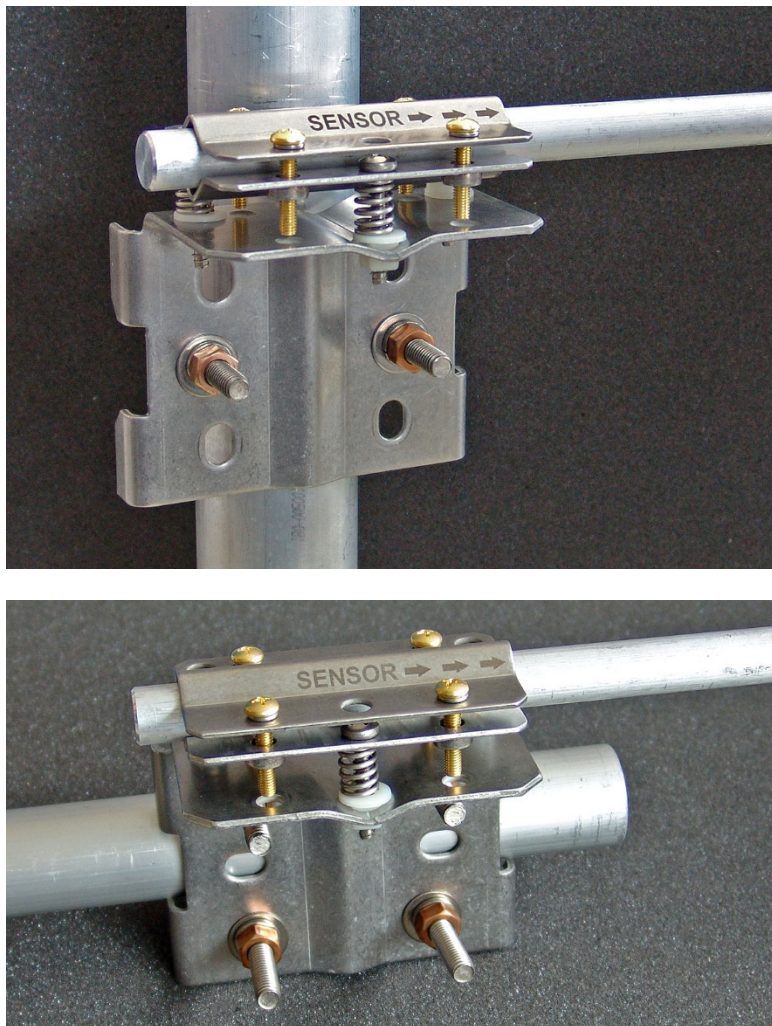

FIGURE 4-2. Attaching the CNR4 onto the mounting rod (pn 26120) using vertical pole or horizontal crossarm
2. Attach the 26120 mounting bracket to the vertical mounting pipe, or CM200-series crossarm using the provided U-bolt (see FIGURE 4-2). If mounted to a vertical pipe, ensure that the pipe does not cast a reflection on the sensor. This includes both the incoming and outgoing sections of the sensor.
3. Insert the sensor's support arm into the mounting block of the mounting bracket kit. Make sure the sensor points in the direction of the arrows that appear after the word **SENSOR** on top of the bracket (see FIGURE 4-2).
5. Tighten the four screws on top of the mounting bracket to properly secure the support arm so that it does not rotate (see FIGURE 4-2).